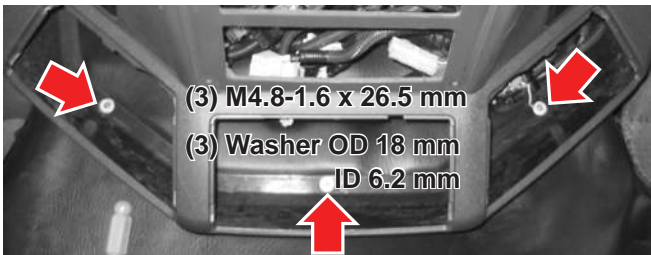

Figure 22-2
2. Reinstall the cup holders and the center storage bin/cover, if equipped (see Figure 22-2).